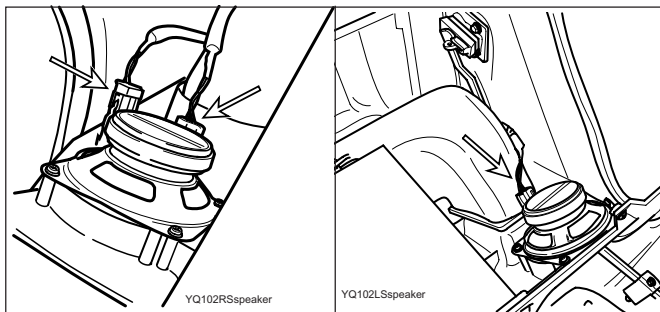

FIGURE 2.24C
- › Remove the rear panel upper cover screws (4) and press the lower locks to release the cover. Tilt cover forward to disconnect the speaker wires and 12V adapter wires, see Figure 2.24C, and remove the top cover.